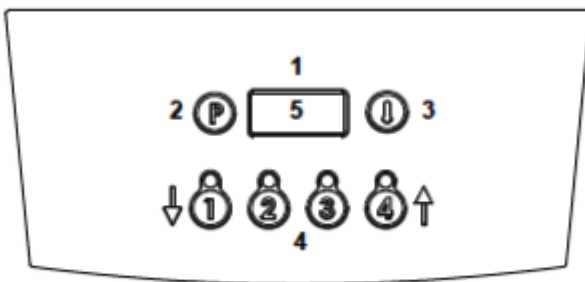

Figure 4 – E3840P/E3840FP Control Panel
3.3.3 E3840P/E3840FP Fryer Control Panel (See Figure 4)